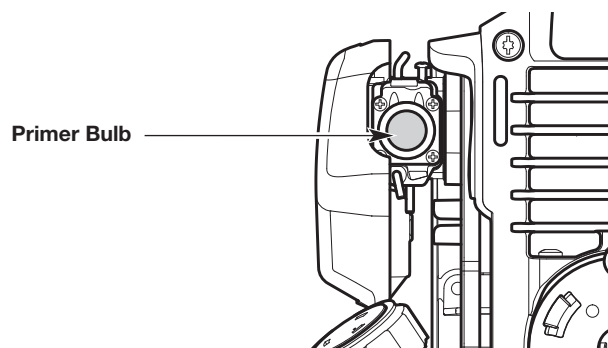

Fig. 12
1. Slowly press and release the primer bulb **10 times** (Fig. 12).